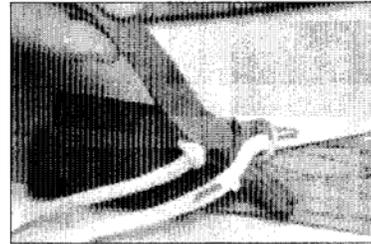

Figure 1
- b) Insert the steering toggle through the brake loop. *Figure 1*